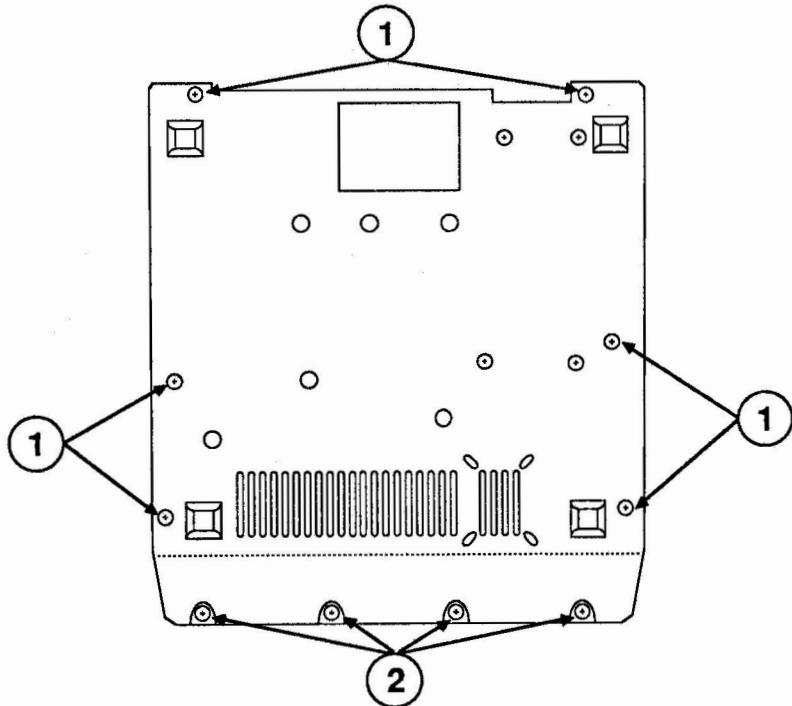

FIGURE 1
5. Remove the six flat-head screws (Figure 1, #1) from the three outside edges of the flat portion of the base pan.
6. Remove the four round-head screws and lock washers (Figure 1, #2) from the angled portion of the base pan.